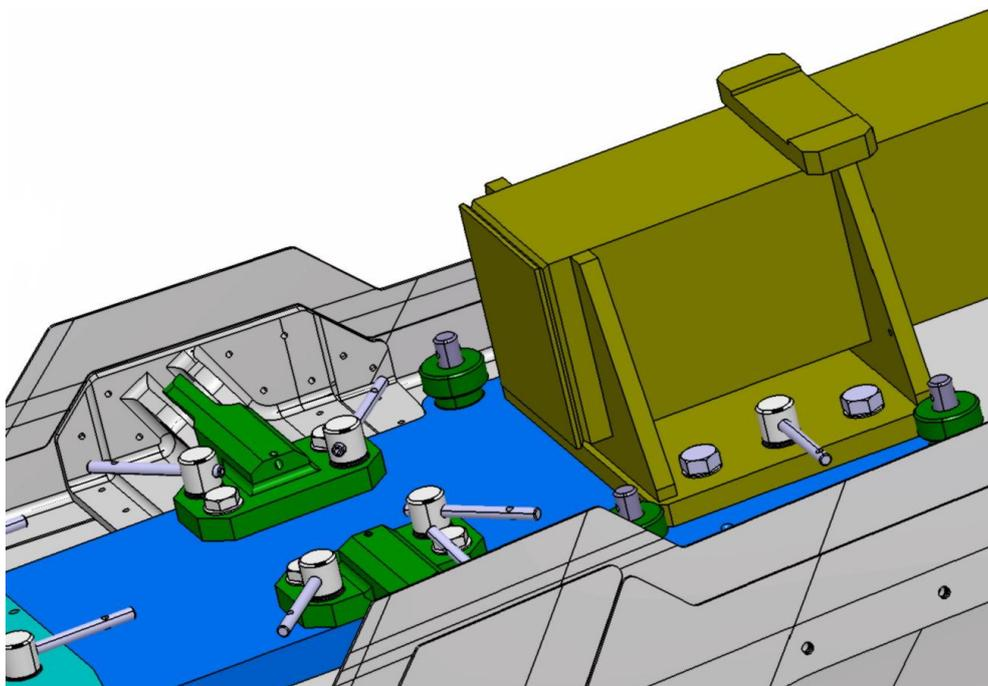

**Figure 20: ITEM 1 FIXING.**
7. Lock ITEM 2 to 3G5350G00931 using the four special screw shown in the fig.20.